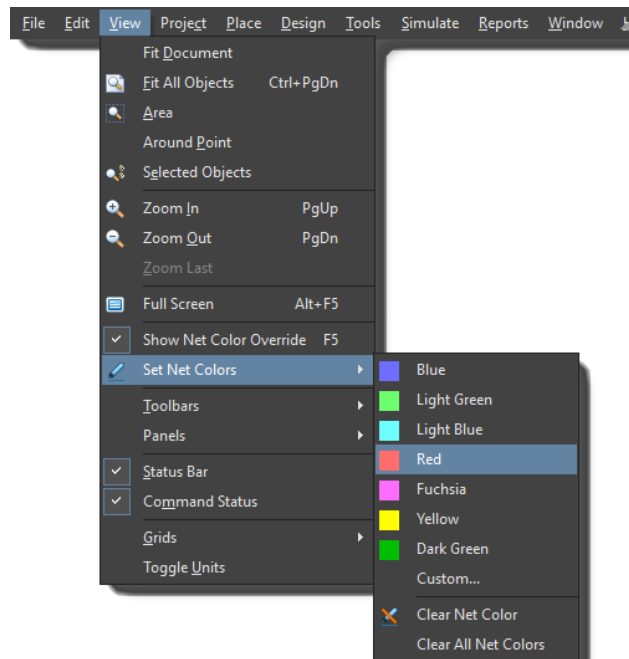

Figure 2. Set Net Colors menu
13. From the **View** menu, select **Set Net Colors** and select **Red**, as shown in Figure 2 below.